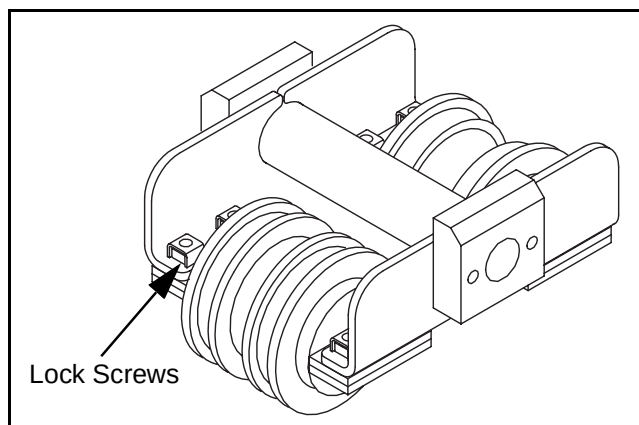

Figure 6 - 68 Track roller
- 4) Remove four lock screws which secure the roller to the bogie. (Figure 6 - 68)